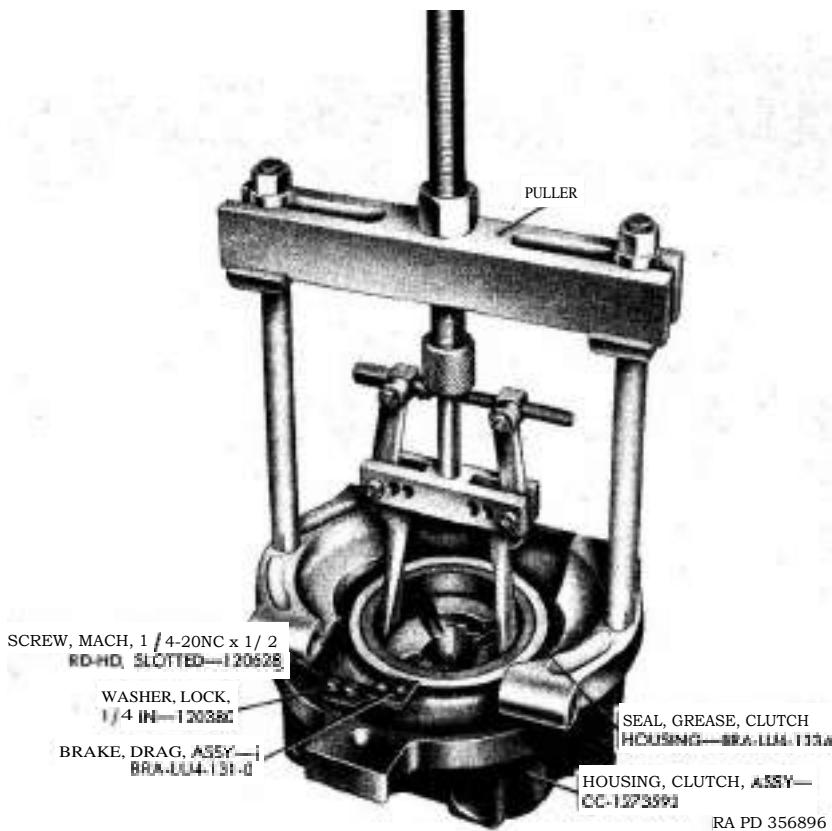

Figure 223. Removing clutch housing grease seal with puller.
- (1) Remove $\frac{1}{4}$ -inch pipe plug from level opening and $\frac{3}{8}$ -inch pipe plug (AE) from filler opening in clutch housing.
- (2) Remove clutch housing grease seal (AT) from clutch housing with puller (*fig. 223*). Discard grease seal.
- (3) Remove two machine screws (VV), lock washers (WW), and cable drum drag brake assembly (XX) from clutch housing.
- (4) Remove sliding clutch (AX) and cable drum retainer ring (AU) from clutch housing.
- (5) Move clutch shifter handle (AJ) off clutch indexing plate (AR) and strike shaft end of handle with a plastic hammer to remove clutch housing expansion plug (AB) and clutch housing expansion plug spacer (ZZ) from bottom of clutch housing. Discard plug. Remove clutch shifter shaft snap ring (AC) from lower end of clutch shifter shaft (AP).
- (6) Remove set screw (AW) from clutch shifter fork (AV) with a 3/16-inch set screw wrench.
- (7) Remove clutch shifter shaft (AP), clutch shifter handle (AJ), and plain washer (AG) from clutch housing. Remove clutch shifter fork (AV) from clutch housing.
- (8) Remove two machine screws (AQ); then remove clutch indexing plate (AR) from clutch housing.
- (9) Remove clutch shifter shaft grease seal (AF) from clutch housing. Discard seal.
c. Remove Clutch Shifter Handle from Clutch Shifter Shaft. Remove set screw (AH) with a 1/8-inch set screw wrench and press clutch shifter handle (AJ) from clutch shifter shaft (AP). Remove Woodruff key (AM) from shifter shaft.
- (5) Position cable drum drag brake assembly (XX) on
- clutch housing assembly (*fig. 223*). Install two 1/4-inch lock washers (WW) and $\frac{1}{4}$ -**20NC** x $\frac{1}{2}$ slotted-round head machine screws (VV); then tighten screws.
- (6) Install 3/4-inch pipe plugs (YY and AE) in drain and filler openings in clutch housing assembly but tighten only drain plug. Install $\frac{1}{8}$ -inch pipe plug in level opening of clutch housing assembly but do not tighten plug.
- (7) Place cable drum retainer ring (AU) on clutch housing bushing type bearing in clutch housing assembly. Engage sliding clutch (AX) with clutch shifter fork (AV) (jaws exposed).
- (8) Prepare new clutch housing grease seal (AT) by soaking in castor oil or Neatsfoot oil for about 30 minutes and work leather by rolling with a smooth, round bar. Coat outer surface of grease seal with plastic-type gasket cement and install grease seal in clutch housing assembly (lip of seal in).